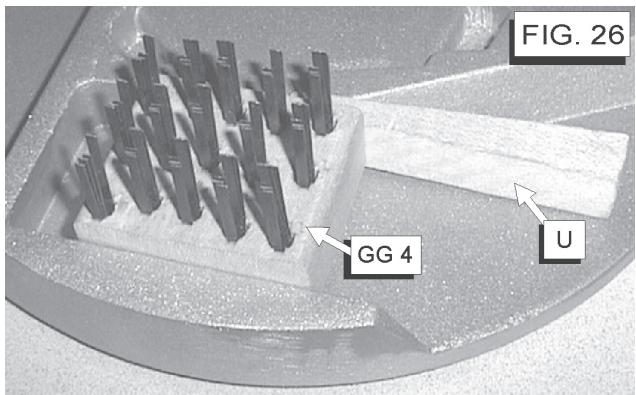

FIG. 26
| E.  | Axle In Transport Position [FIG. 11].   | GG4.  | Wire Brushes [FIG. 26].  |
- GG4. Brosses métalliques [FIG. 26]